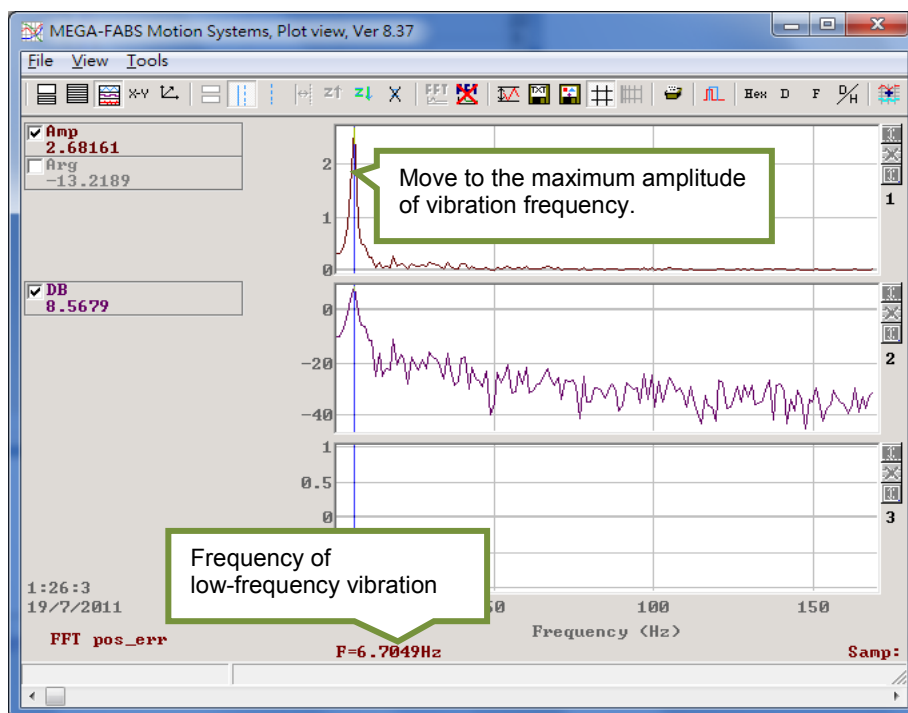

Figure 6.6.6.6
- Step 9: Check the checkbox of **enable VSF** to enable vibration suppression filter (VSF), as figure 6.6.6.7. Please be noted that do not check or uncheck the checkbox of **enable VSF** when the motor is moving.